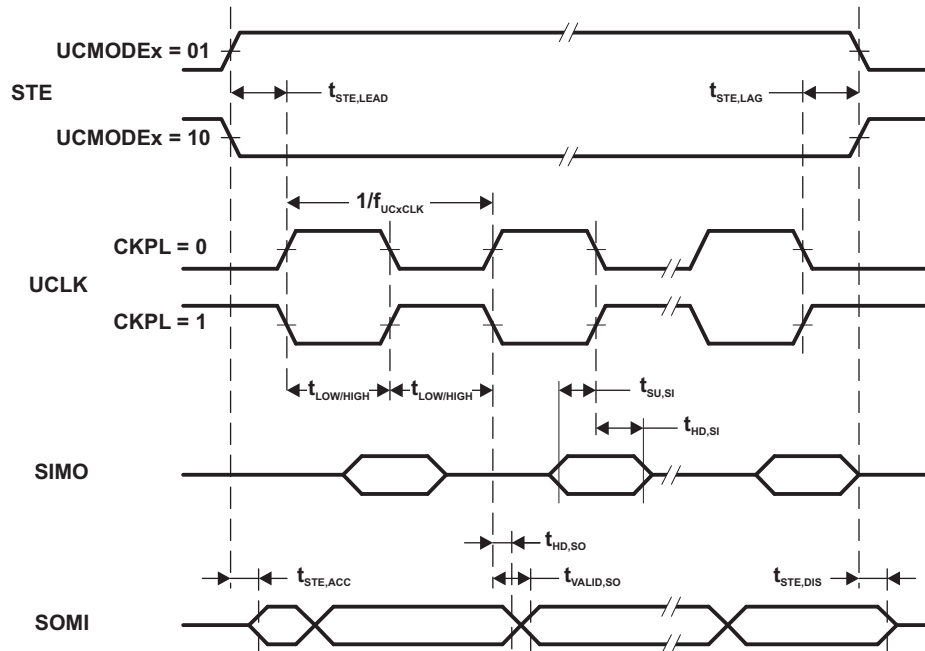

Figure 5-17. SPI Slave Mode, CKPH = 0
(1) $f_{UCXCLK} = 1/2t_{LO/HI}$ with $t_{LO/HI} \geq \max(t_{VALID,MO(Master)} + t_{SU,SI(eUSCI)}, t_{SU,MI(Master)} + t_{VALID,SO(eUSCI)})$.For the master parameters $t_{SU,MI(Master)}$ and $t_{VALID,MO(Master)}$ refer to the SPI parameters of the attached slave.(2) Specifies the time to drive the next valid data to the SOMI output after the output changing UCLK clock edge. Refer to the timing diagrams in Figure 5-17 and Figure 5-18.(3) Specifies how long data on the SOMI output is valid after the output changing UCLK clock edge. Refer to the timing diagrams in Figure 5-17 and Figure 5-18.